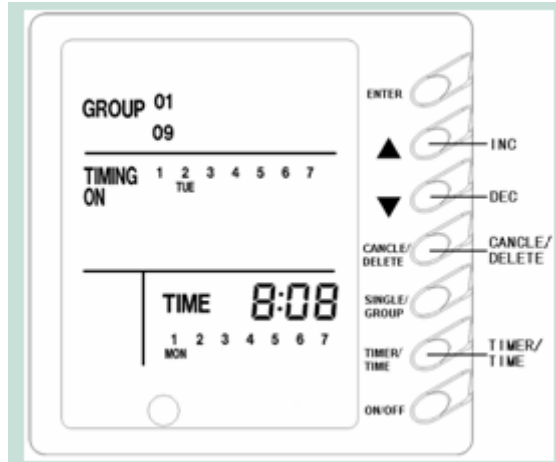

Fig.11.
- 3) When timer is validate, short-press “**timer/time**” to enter timer week setting. Press “**dec**” or “**inc**” can select a certain day in one week. Short-press “**cancel/delete**” back to process 2) (fig.11).